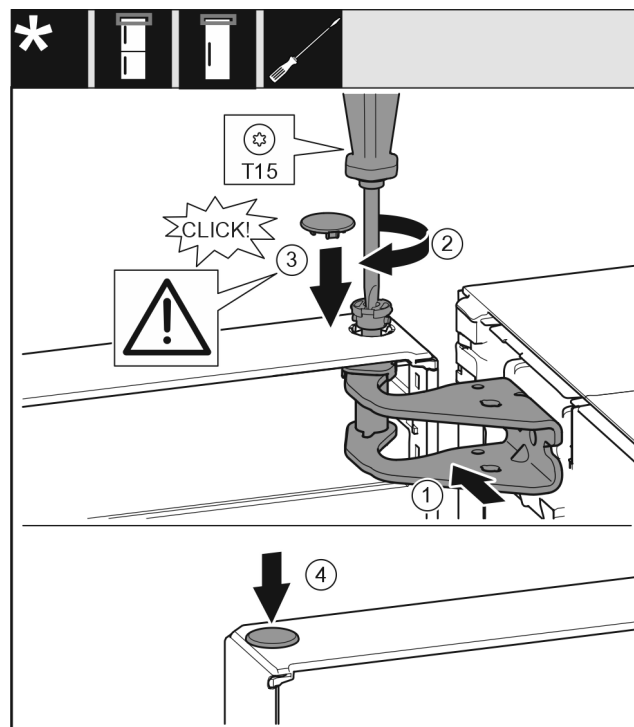

Fig. 21
- ▶ Align the door on the top towards the opening in the swap bearing block *Fig. 21 (1)*.
- ▶ Insert the pin *Fig. 21 (2)* and tighten it with the screwdriver.
- ▶ Insert the cover *Fig. 21 (3)*.
- ▶ Check to be sure that the cover *Fig. 21 (3)* is positioned on the door.
- ▶ Insert the cover *Fig. 21 (4)*.